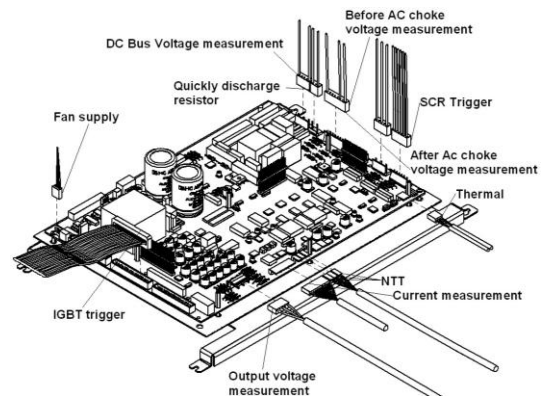

Figure 7.2.6. Disconnect all connected wires from power board
- 4) Put the new control board in the same place than the replaced one, matching the board holes with the hexagonal plastic spacers **M3x20** (see figure 7.2.6).
See the figure 7.2.6 while reading the following instructions:
- 7) Connect the cables to the corresponding connectors (see figure 7.2.6).